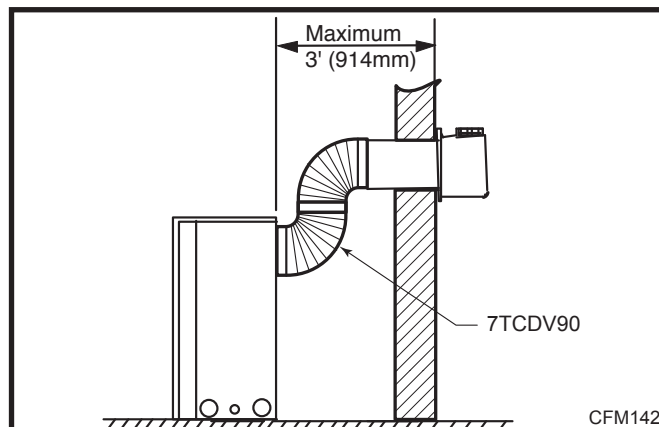
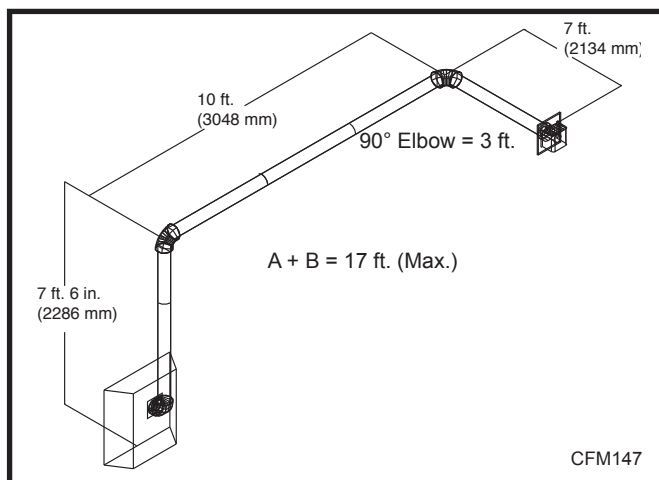
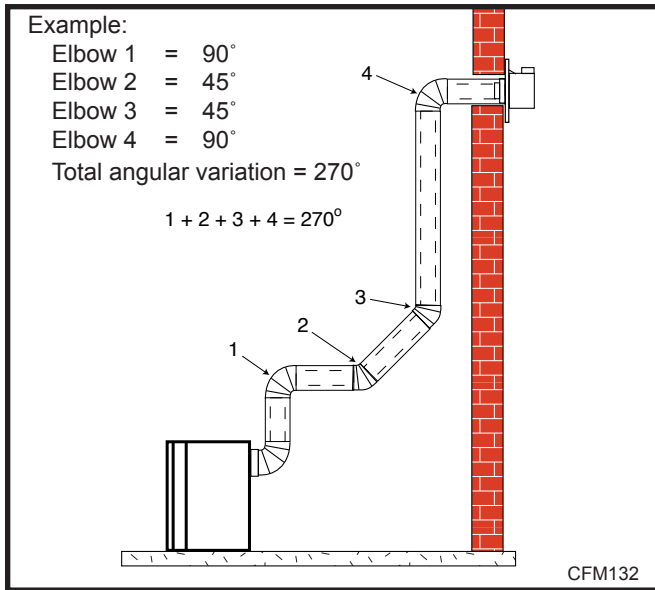

Fig. 27 Maximum horizontal vent run.
Fig. 28 Maximum vent run with elbows.
Fig. 29 Maximum number of elbows.
- The maximum number of 90° elbows per side wall installation is three (3).
- If a 90° elbow is used in the horizontal vent run (level height maintained) the maximum horizontal vent length is reduced by 36" (914 mm). (Fig. 27) This does not apply if the 90° elbows are used to increase or redirect a vertical rise. (Fig. 28)
**Example:** According to the chart the maximum horizontal vent length in a system with a 7.5' (2.3 m) vertical rise is 20' (6 m) and if a 90° elbow is required in the horizontal vent it must be reduced to 17' (5.2 m). In Figure 28 Dimension A plus B must not be greater than 17' (5.2 m).
- The maximum number of 45° elbows permitted per side wall installation is two (2). These elbows can be installed in either the vertical or horizontal run.
- The maximum number of elbow degrees in a system is 270°. (Fig. 29)